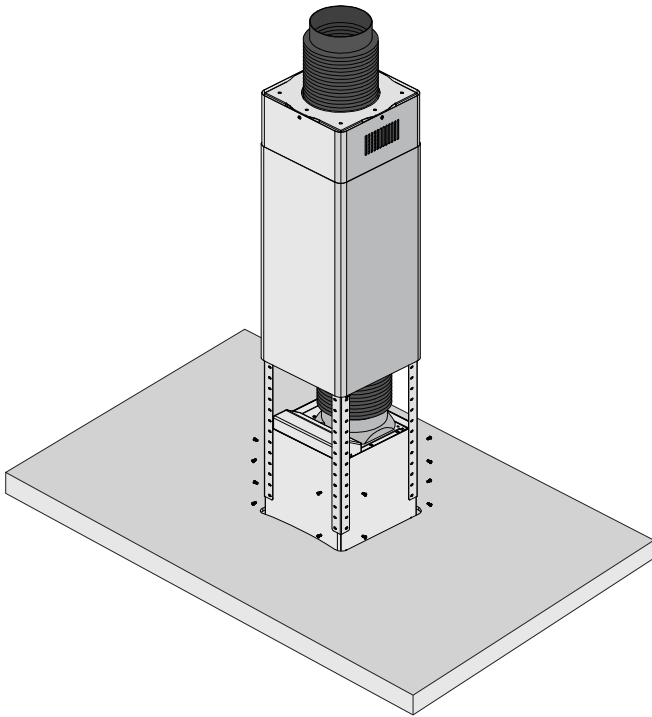

Figure 5
- Extend the hose from hanging scaffold, and fix hood's body on bracket. See Figure 5.